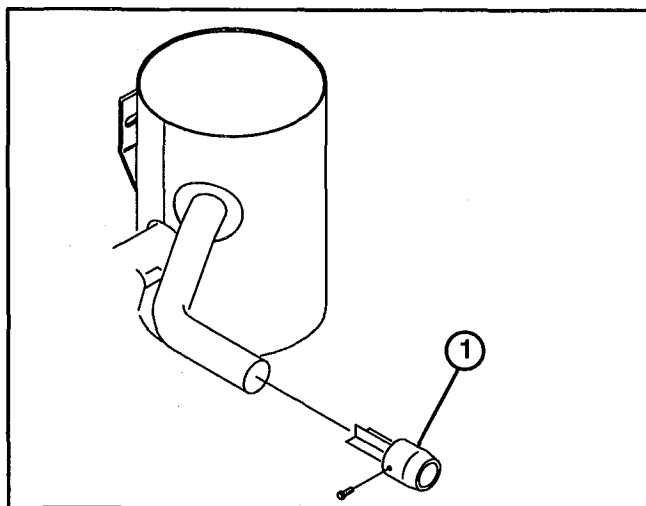

Figure 18
70. Insert spark arrester into muffler exhaust pipe and secure with screw (Fig. 18).